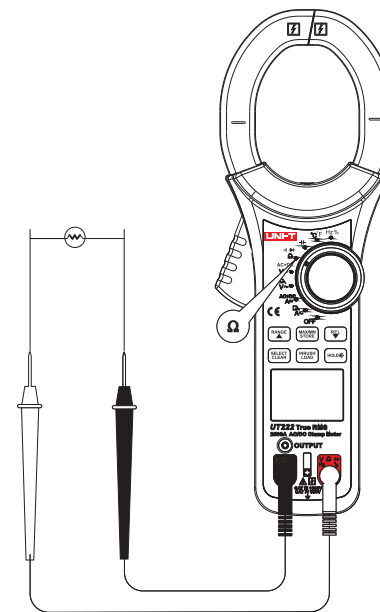

Figure 6
3. Resistance measurement (See Figure 6)